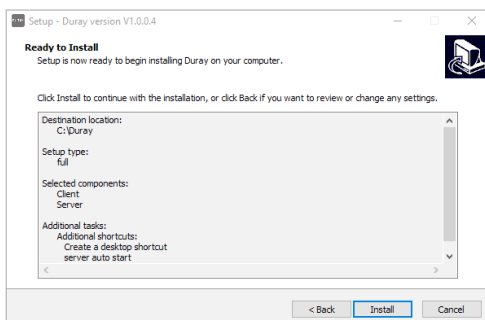

Figure 8
f) Click the “Install” button to start the installation, as shown in Figure 8: